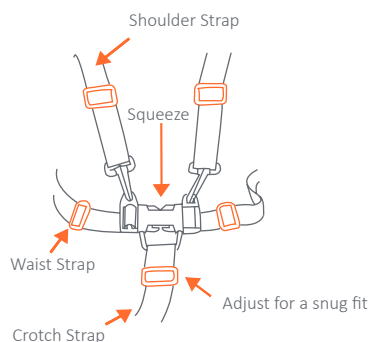

Fig. 13c
• Carefully place the child in the stroller seat and bring the safety harness around the child's waist and over the shoulders. Place the crotch strap between the child's legs. Insert the male end of each shoulder/waist belt into the buckle on the crotch strap. Tighten the harness to be snug around the child's waist and over the child's shoulders (Fig. 13c).